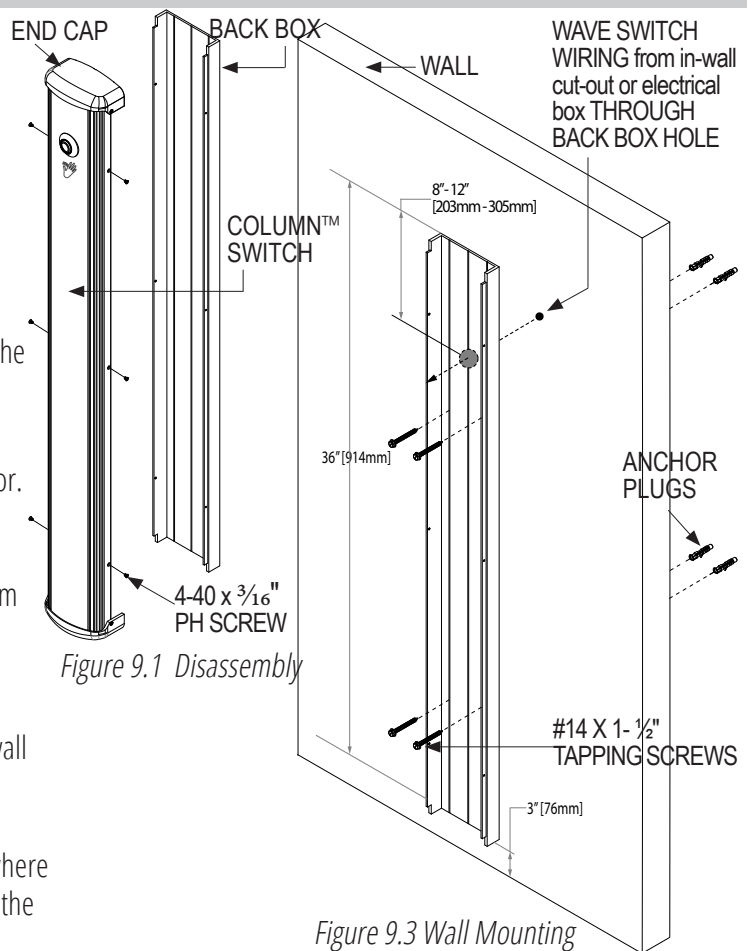

Figure 9.3 Wall Mounting
12. Secure the Back Box to the wall with the #14 x 1-1/2" tapping screws provided. (Figure 9.3 and 9.4)
12. Secure the Back Box to the frame with the 1/4"-20 machine screws. (Figure 9.3 and 9.4)